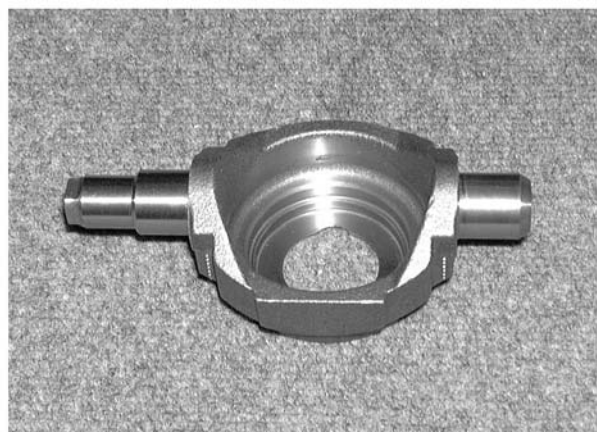

Figure 6-70.
2. Inspect the swashplate making certain the pivoting shafts are smooth. See Figure 6-70.